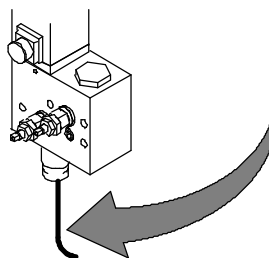

Fig. 26
a) The breaking of the steel cable (code 01001567, tav.4-5-6) causes the immediate ascent of the arm beyond the maximum limit (Fig. 26). **Immediately switch off the motor, to avoid its burning out, and replace the damaged part.**